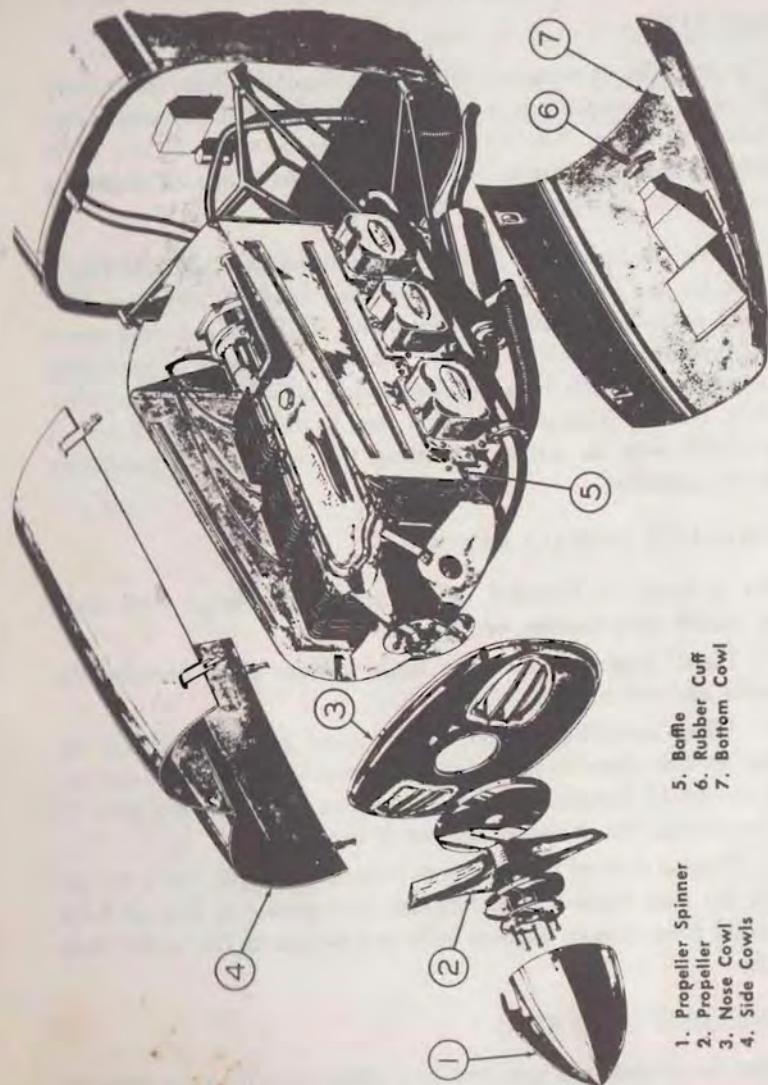

Figure 40—Propeller and Cowling
5. The engine cowl is made in four pieces: the nose cowl, the bottom cowl, and the two side cowls. Refer to figure 40. The bottom cowl is attached to the fuselage at the rear, and to the nose cowl in front. The side cowls are fastened together with a continuous hinge along the top. The front end of the hinge is attached to the nose cowl and the rear end is attached to a bracket at the firewall. Each side cowl is locked to the bottom cowl with two lock straps that fasten with trunk type fasteners. The hinged side cowls afford ample access to the engine. Internal baffles are mounted on the engine.